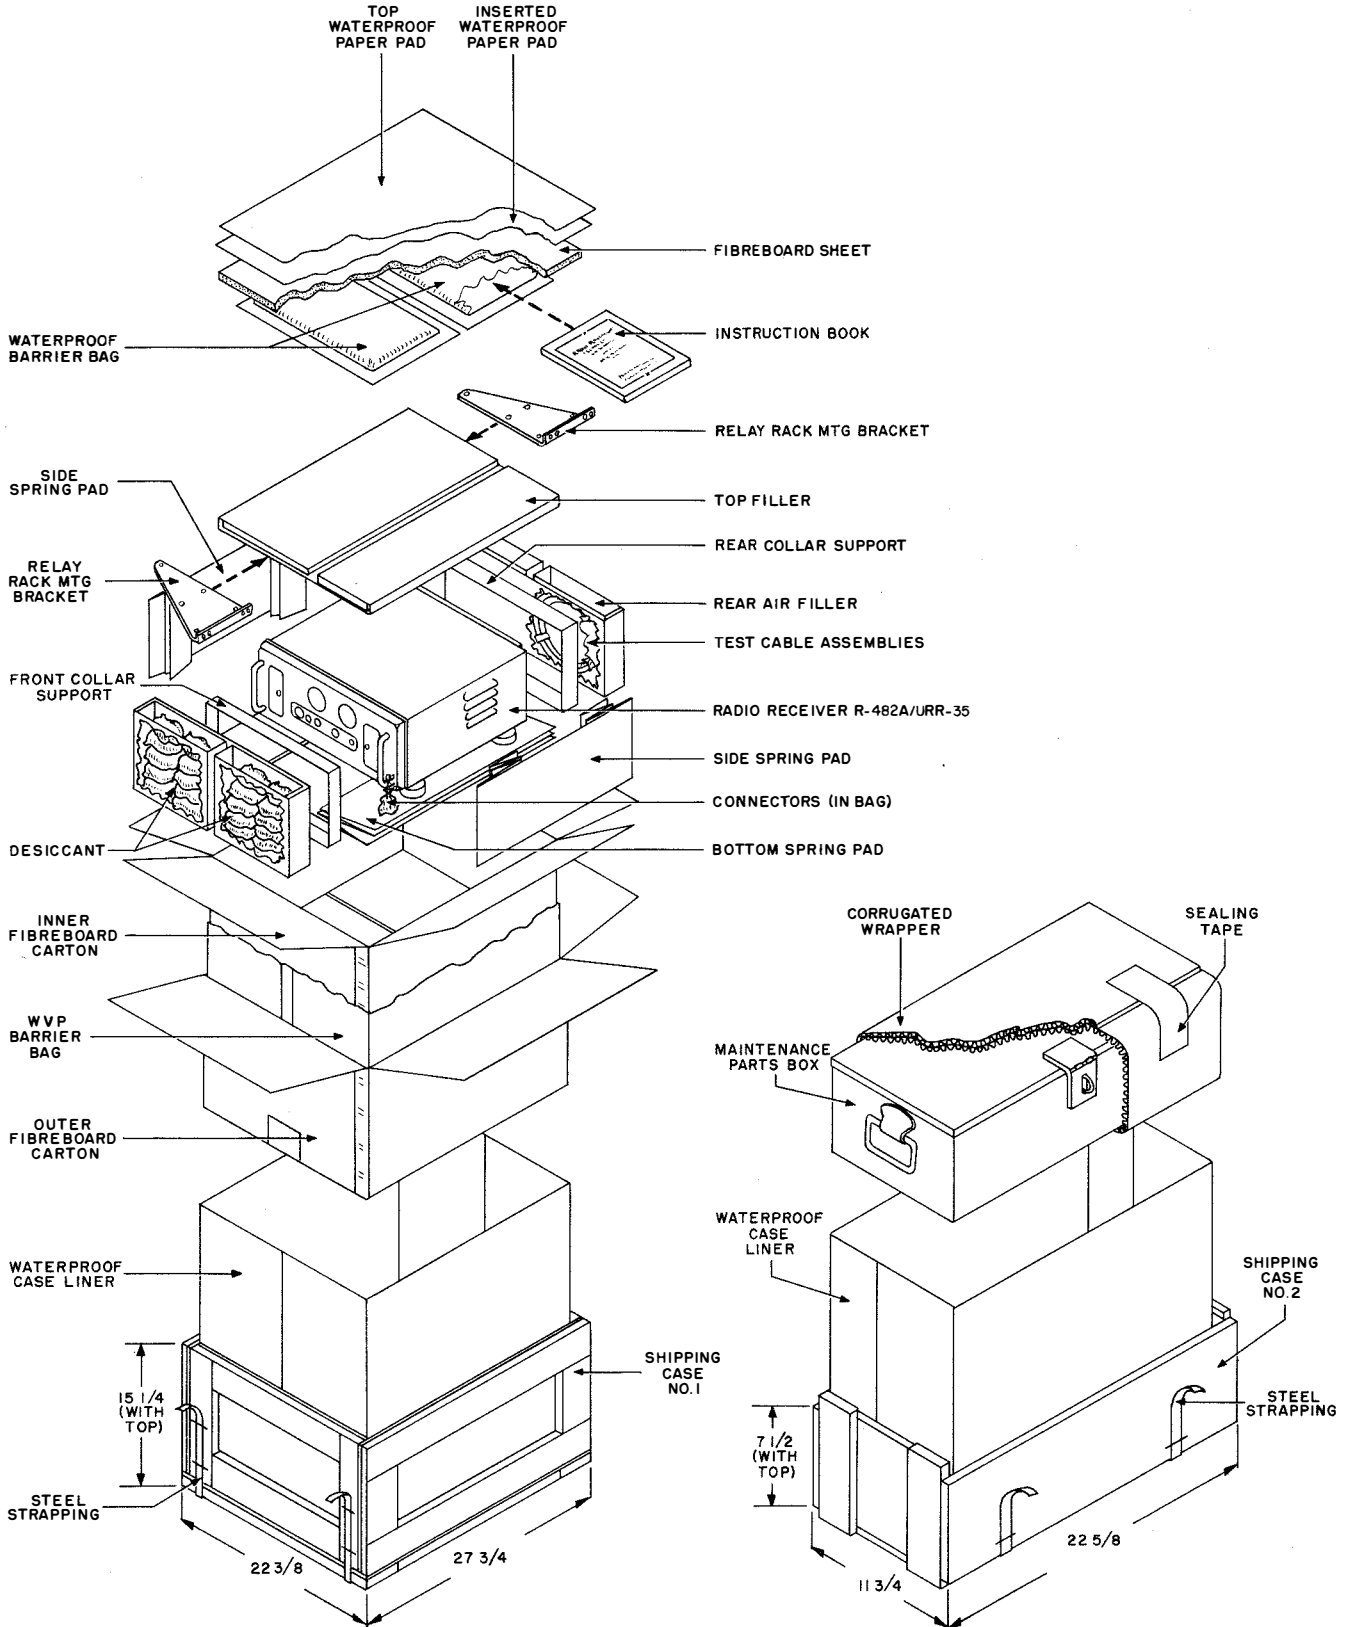

Figure 3-1. Packaging of Radio Receiving Set AN/URR-35A
*a. GENERAL.*—Each complete Radio Receiving Set AN/URR-35A is shipped in two wooden cases. Case No. 1 contains the receiver and its accessories, while the maintenance parts kit is packed in case No. 2. The accessories which are packed in case No. 1 with the receiver are the two test cable assemblies, the set of four connector plugs, the pair of relay-rack mounting brackets and two instruction books; see figure 1-1. The method of packing the equipment is shown in figure 3-1; refer to that illustration while unpacking in accordance with the instructions outlined in the following subparagraphs.